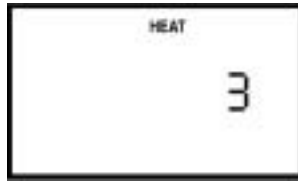

Figure 6–6 Humidifier Setting Screen
1. From either the Standby or Monitoring screen, press and hold the **Heat** button for approximately 4 seconds. The Humidifier Setting screen appears, as shown in Figure 6–6.